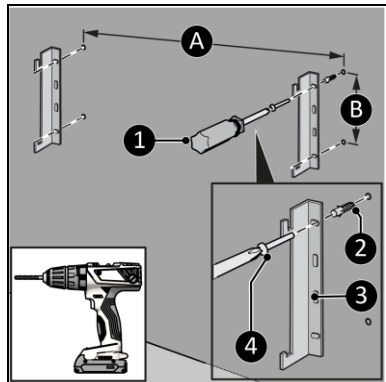

Figure 9
4. Drill four holes for the brackets, the two lower holes at least 125 mm above the floor. The distance between the vertical holes (Figure 9, pos. B) is 105 mm. The distance between the horizontal holes is approximately (Figure 9, pos. A and B)*:
5. Place wall plugs (Figure 9, pos. 2).
6. Screw and tighten a left and a right bracket (Figure 9, pos. 3) to the wall with a large screw (Figure 9, pos. 4) using a Phillips screwdriver (Figure 9, pos. 1).